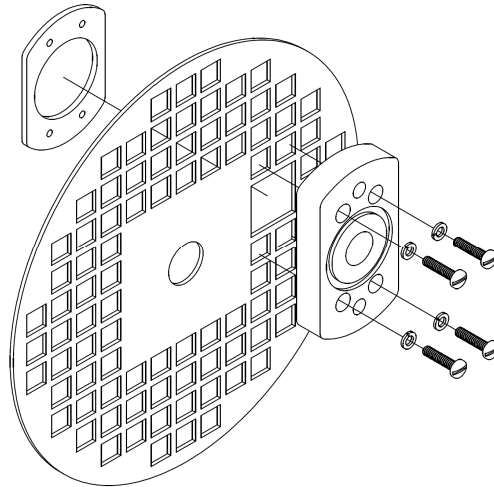

Figure 6: Installation of the Speed Sensor Mounting Block
- Using a small flathead screwdriver, the mounting back plate, the (4) #4-40 x 1/2" pan head screws, and the (4) #4 split lock washers, mount the speed sensor mounting block as shown in Figure 6 below. Only snug the screws for now. Align the speed sensor mounting block so that it is roughly centered on the 3/4" x 3/4" window in the fan cover. Replace the fan cover.